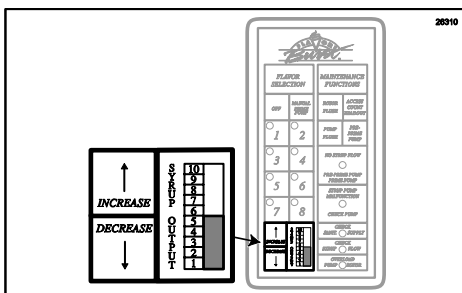

Figure 179
2. Adjust the level indicated on the flashing bar graph by touching the INCREASE key or DECREASE key. A lower setting will change flavors more frequently in a multi-flavor dispense (thinner layers). A higher setting will change flavors less frequently in a multi-flavor dispense (wider layers). (See Figure 179.)